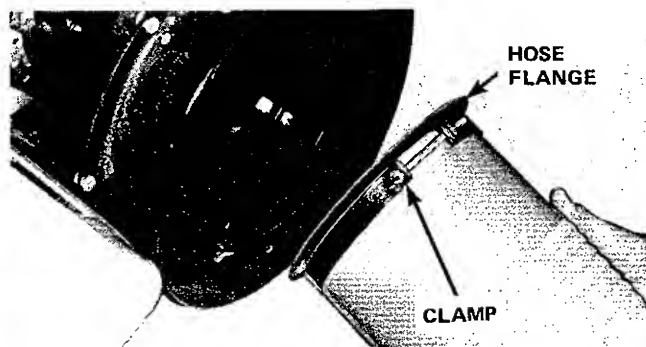

FIGURE 15
1. Install the mounting flange and clamp on the plain end of the hose. Tighten the clamp screw securely. (See Figure 15)
3. Attach the flanged end of the roving nozzle to the blower housing, seating the flange fully in the notches. (See Figure 15)